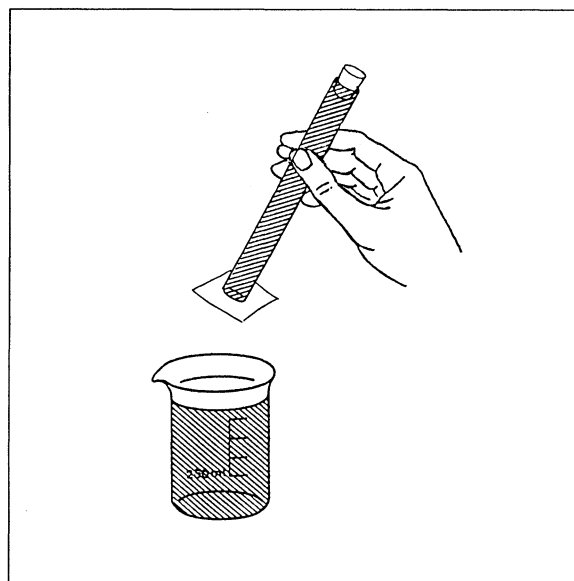

Fig. 6 ► 10.
11. Press the paper tightly against the rim of the pipe and turn the pipe upside down, so that the paper is at the bottom. ► Fig. 6.